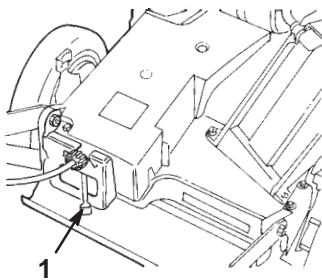

Figure 13
4. Move the ground speed control to the  (**Neutral**) position (Fig. 13).
The lawn mower has 3 ground speeds. **1** is slow, **2** is medium, and **3** is fast. The ground speed control is located at the rear of the belt cover (Fig. 13).